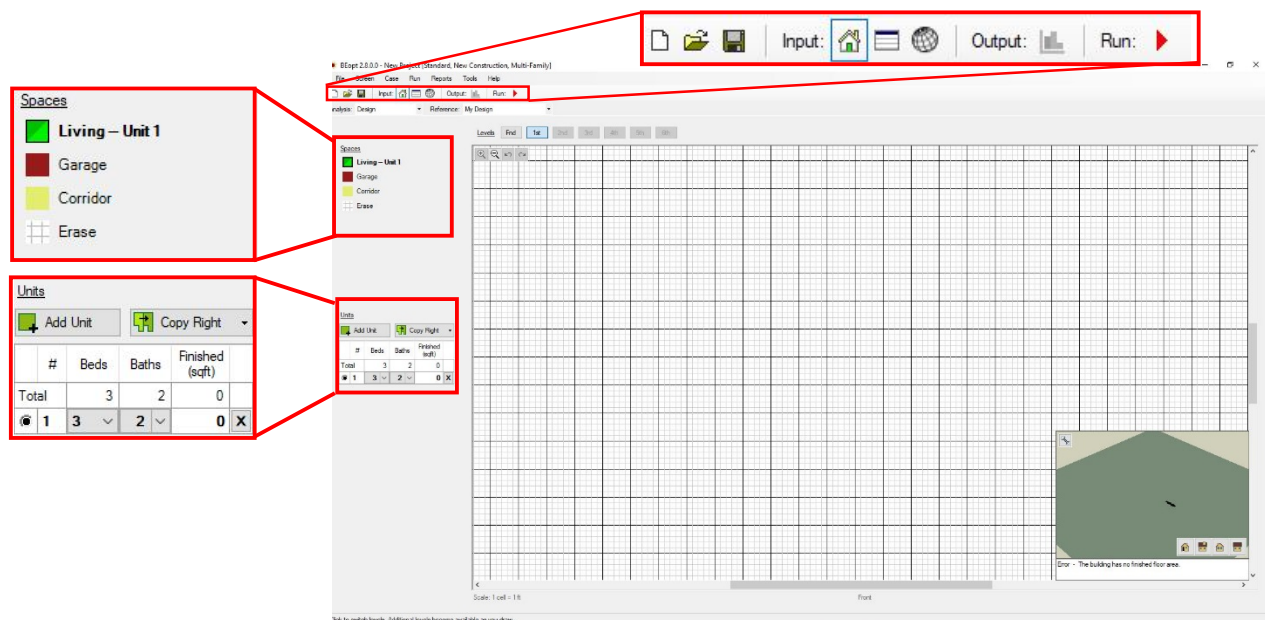

Figure 1: The BEopt Geometry Screen Interface
- The three boxes in red shown in Figure 1 are the **Tool bar**, **Spaces bar** and **Units bar**.